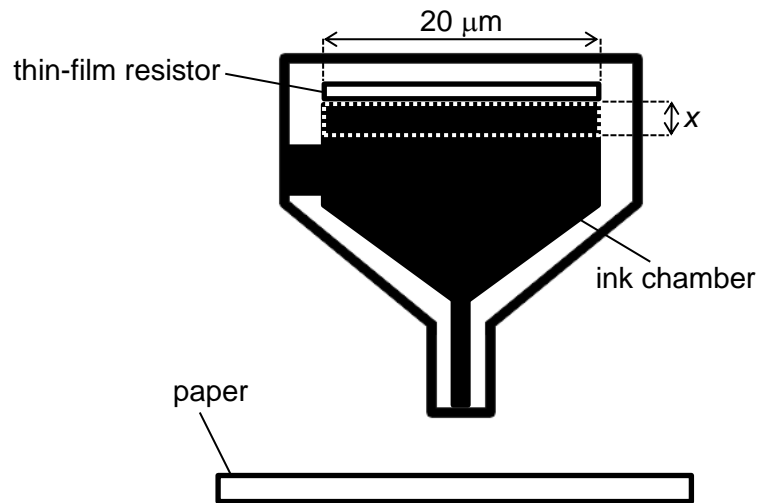

Fig. 8.5
- (c) In a thermal inkjet printer, a constant current of 0.50 A is passed through the thin-film resistor for a short time interval of $0.010\ \mu\text{s}$. This causes a square layer of ink below the thin-film resistor of thickness x to heat up and vaporise. This is shown in Fig. 8.5.